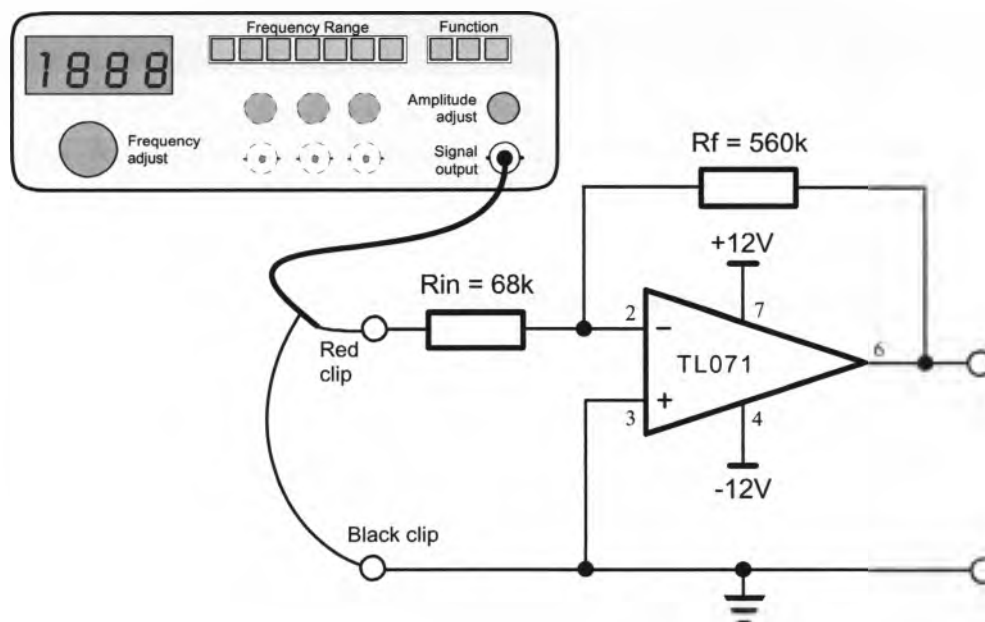

Figure 1
3. Connect the circuit in Figure 1 on the Emona trainer.